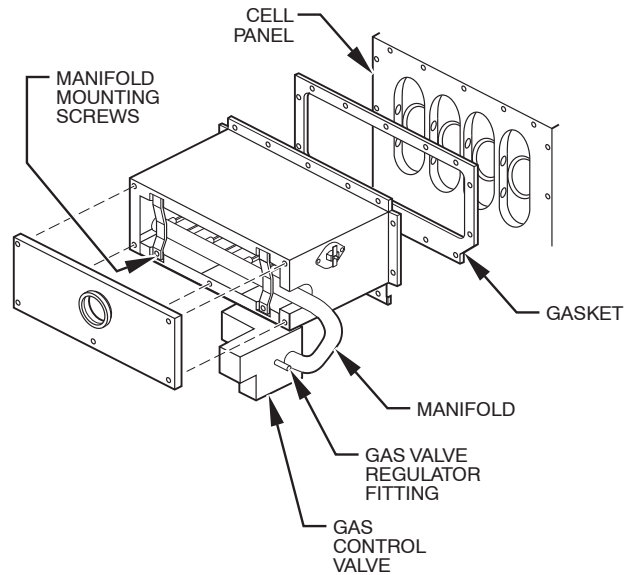

Fig. 6 - Burner Box Assembly
- Remove screws that secure manifold to burner box. (See Fig. 6.)
10. Remove screws attaching burner box to cell panel. (See Fig. 6).
NOTE: Be sure burner box gasket is installed between burner box and cell panel. (See Fig. 6.) If gasket is damaged, replace it.